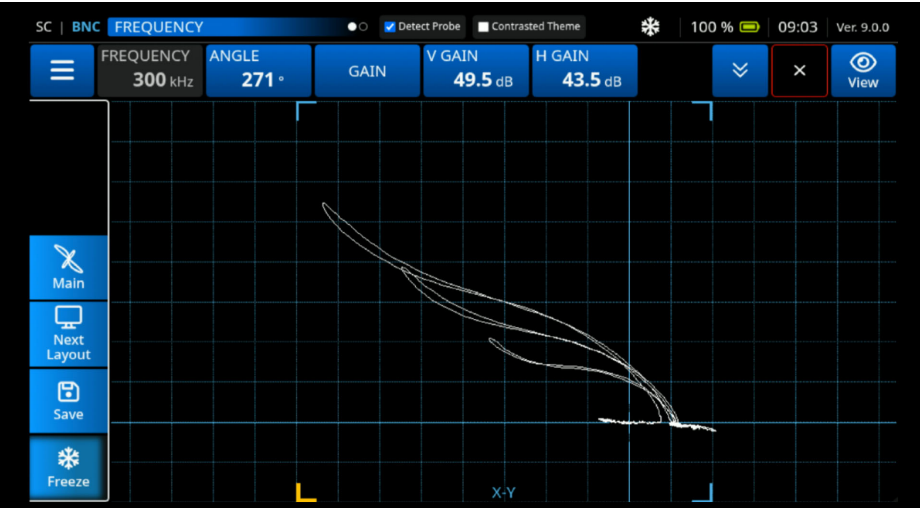

Figure 3-10 Check Sensitivity Detection
- Scan the three EDM Notches to confirm good sensitivity detection (See Figure 3-10 on page 53).